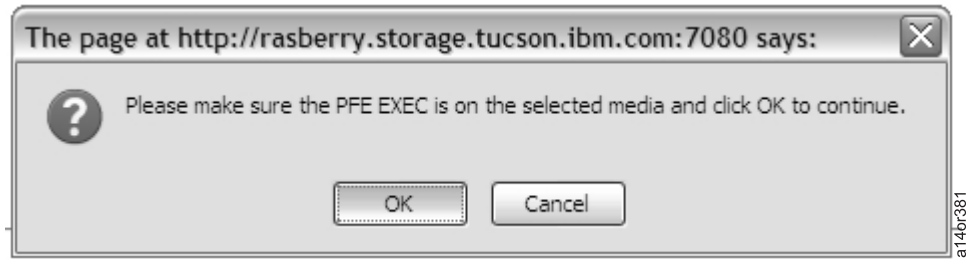

Figure 262. PFE Exec Patch
9. You see the window in Figure 262 on page 225, which prompts you to verify that the PFE EXEC patch is on the selected media. Select **OK**.